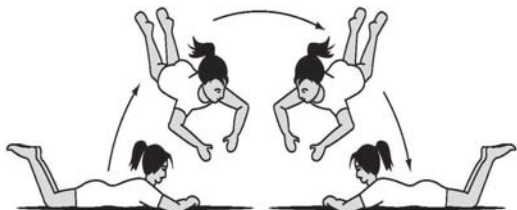

Figure 9: Front drop - half twist - front drop
Step 4: From a standing position, prime the bed, then perform a front drop. Push sideways, as in Step 3, and complete a 180 degree turn, finishing in a front drop facing the opposite position (see Figure 9).